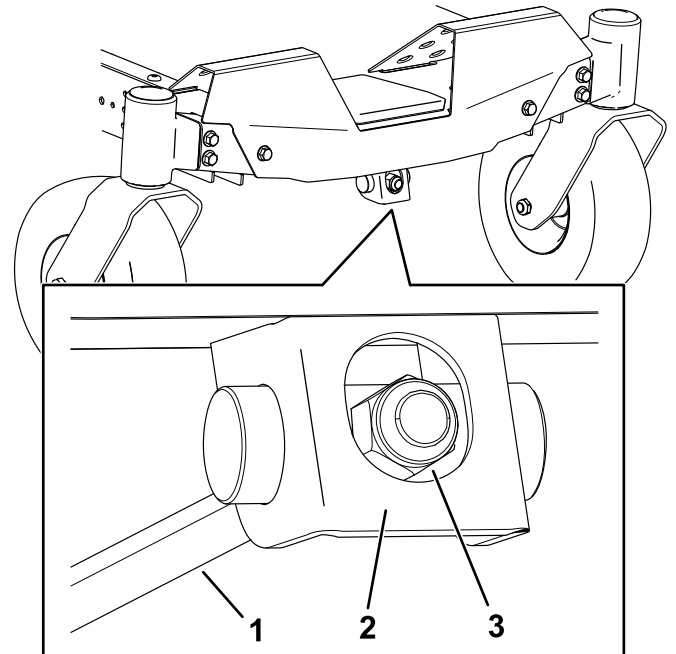

Figure 60
5. To adjust the front-to-rear blade slope, rotate the adjustment nut in the front of the mower (Figure 60).